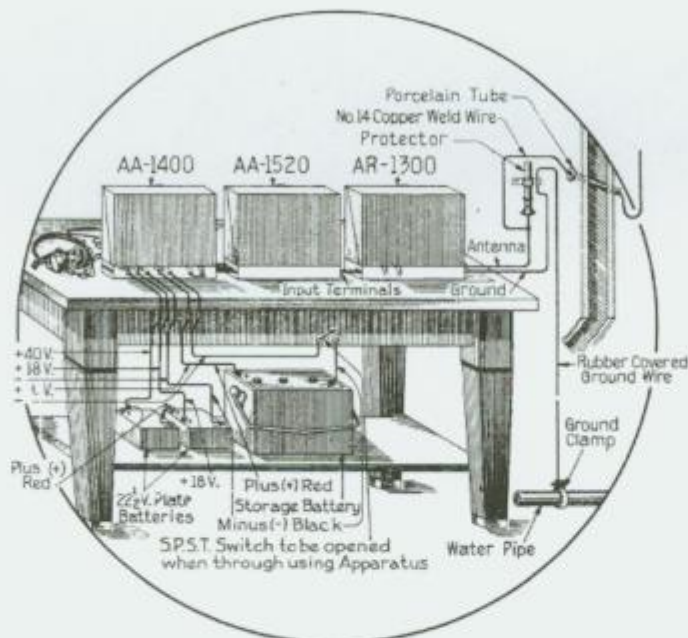

Fig. 4
- (1) A single circuit tuner, MODEL AR-1300 (Fig. 4).
(A) If a single circuit tuner, MODEL AR-1300, is used, the apparatus should be wired in accordance with Fig. 4. The following apparatus will be required: